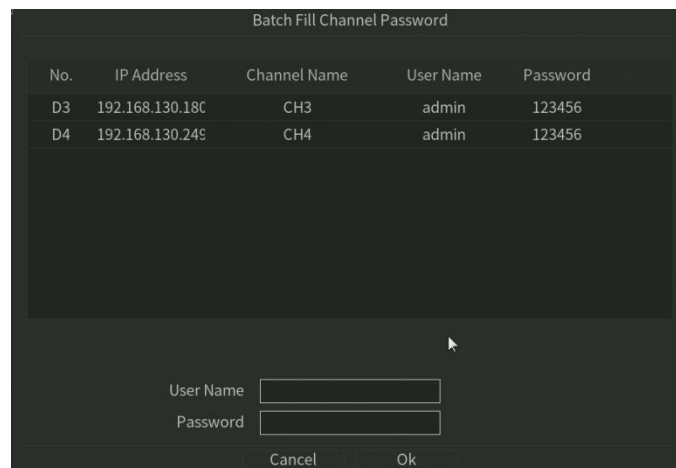

Figure 6.4 Batch Fill IP Camera username and Password
7. You can click **Batch Fill Channel Password** button to input the IP Camera username and password batchly,as shown in figure6.4.